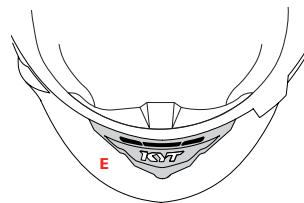

FIGURE 2
FRONT AIR INTAKE CHIN — E — Figure 2/3
- Figure 2: air intake closed.